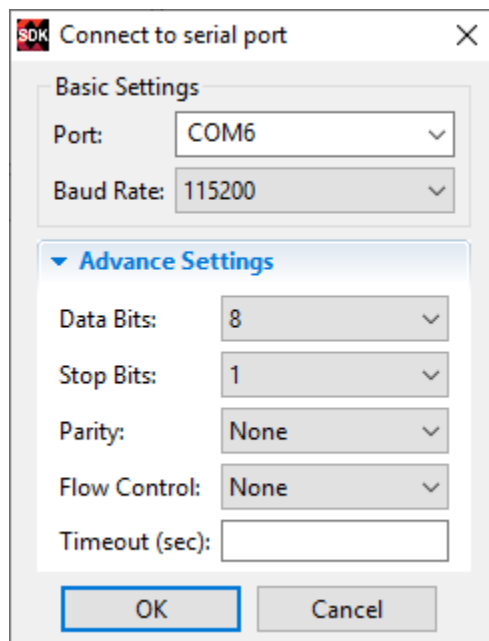

Figure 33: Setting up the serial port.
13. Use the settings in Figure 33 to set up the serial port. Check the Windows Device Manager on your workstation for the **USB Serial Port** to determine which COM port is connected to the ZedBoard. Once the settings are correct, click **OK**.